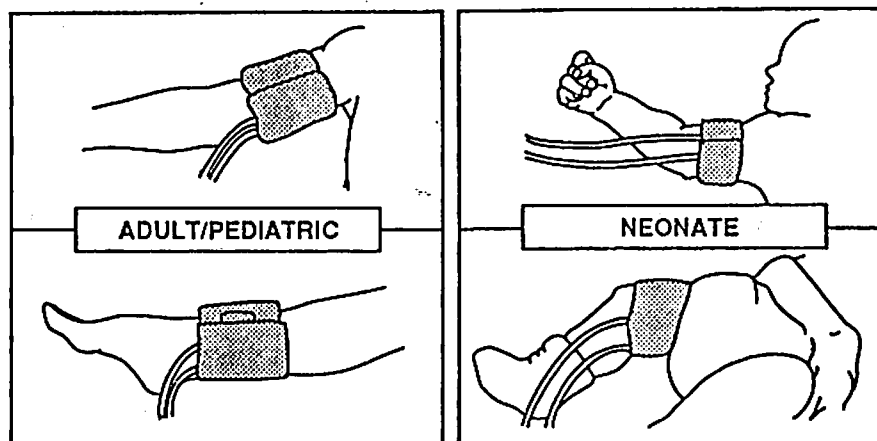

Figure 4-4. Blood Pressure Recommended Cuff Placement
1. Select the appropriate blood pressure measurement site. For neonates, the arm or leg can be used. For adults/pediatrics, the preferred cuff location is the arm. When the arm cannot be used, placement on the ankle is preferred over the thigh since measurement on the adult thigh may be uncomfortable. When there is no suitable alternative for the thigh (for example, shock), set the monitor's (NIBP) determination cycle to five (5) minutes or longer, unless the clinical situation requires more frequent measurement. See Figure 4-4.